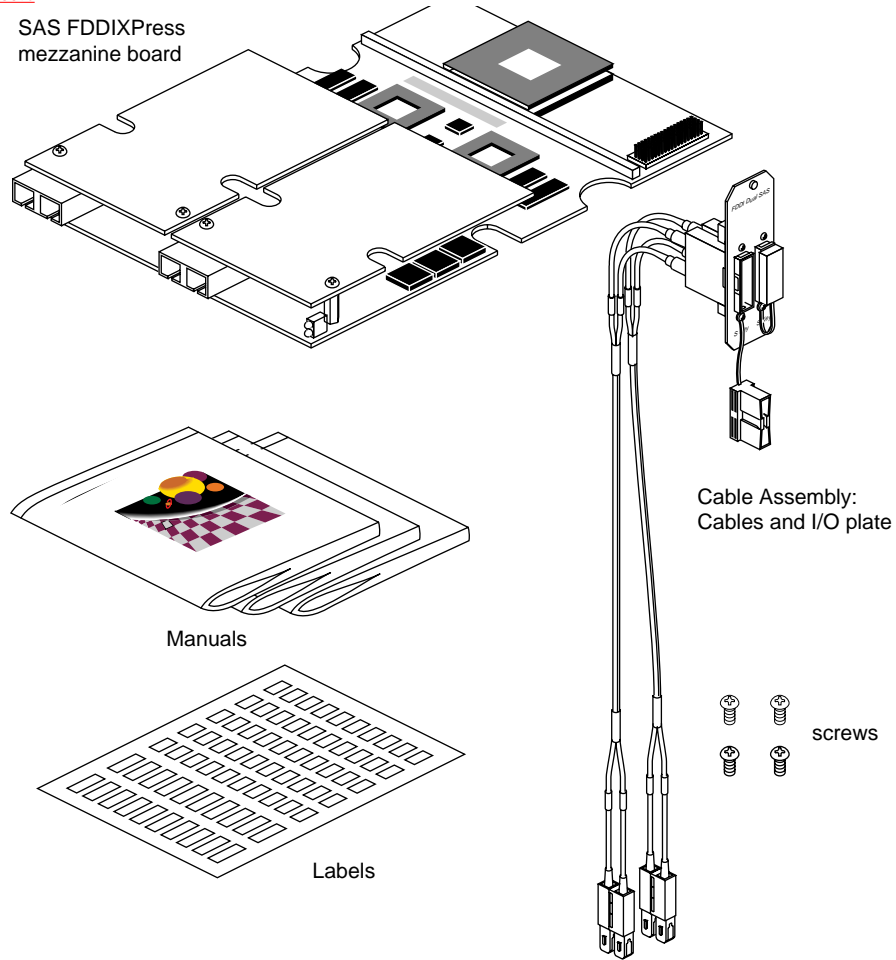
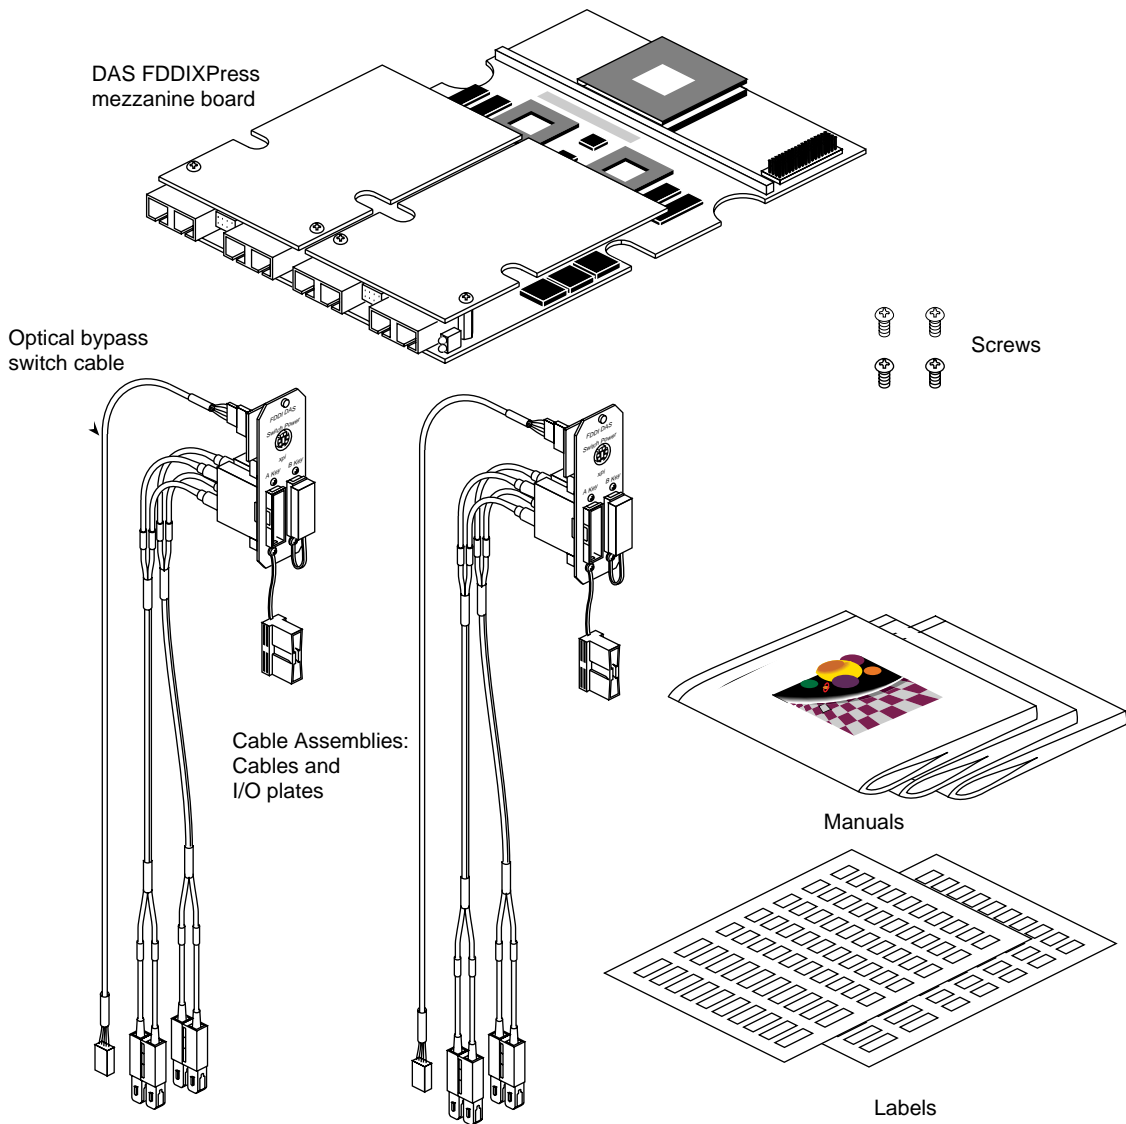

Figure 1-1 SAS FDDIXPress Mezzanine Package Parts
Figure 1-2 DAS FDDIXPress Mezzanine Package Parts
- Figure 1-1** SAS FDDIXPress Mezzanine Package Parts 1-2
- Figure 1-2** DAS FDDIXPress Mezzanine Package Parts1-3
Verify that the FDDIXPress mezzanine option package is complete. For the single-attachment station product (SAS), the package should contain the items listed in Table 1-1 and illustrated in Figure 1-1. For a dual-attachment station product (DAS), it should contain the items listed in Table 1-2 and shown in Figure 1-2. If anything is missing, and you cannot properly complete the installation, notify the customer or the customer's salesperson.